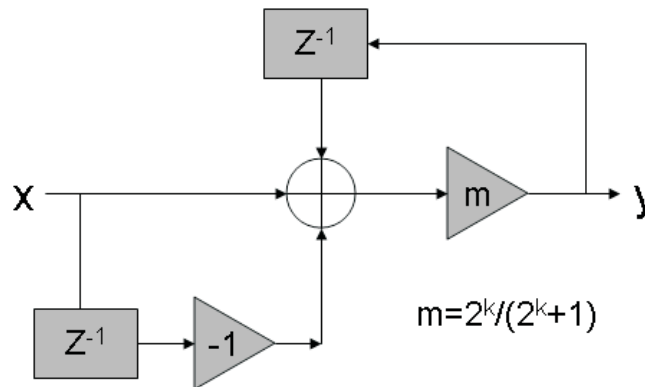

Figure 46. HP Filter Block Diagram
ADS5294 includes optional first-order digital high-pass (HP) IIR filter. Figure 46 shows the device block diagram and transfer function.